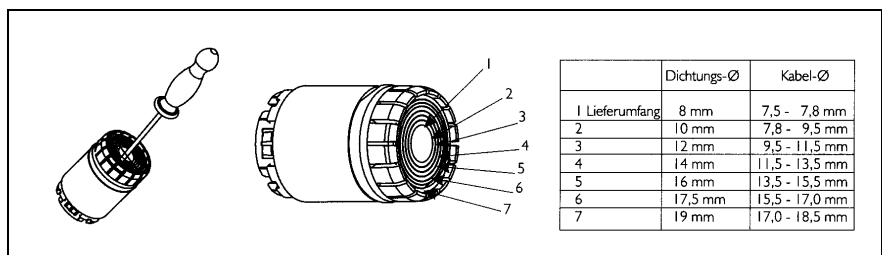

Fig. 2-22: Adapting cable clamp INS0681
1. Extension with variable cable clamp (A) can be matched to the cable diameter by punching out the excess sealing ring using a screw driver (see Fig. 2-22)